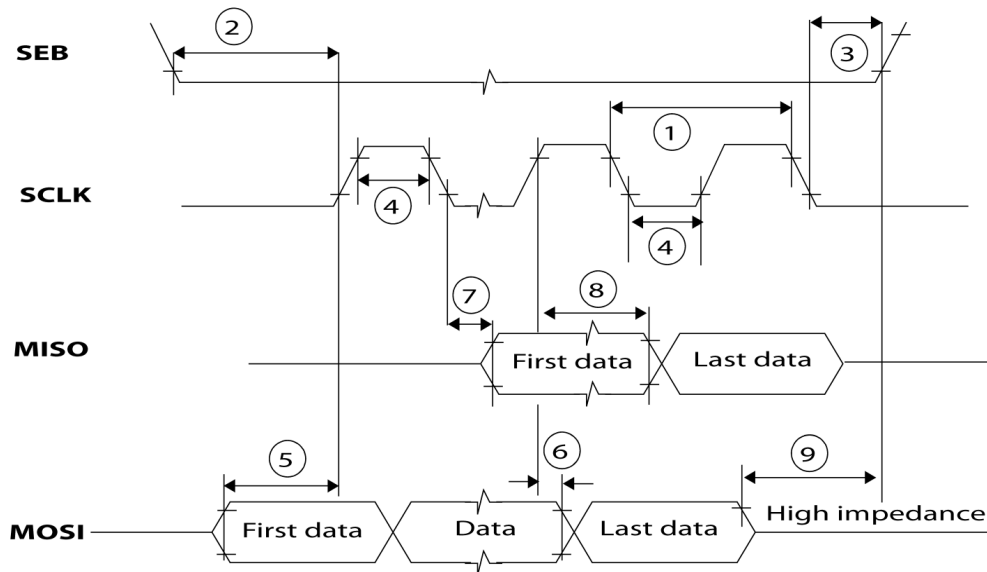

Figure 7. Typical SPI timing chart
SPI timings are described in Table 7 and illustrated in Figure 7. The SPI timing diagram, with the temperature and supply voltage conditions described in this document, and a maximum load capacitance, CL = 20 pF.
5. The numbers under the Notes heading refer to the corresponding numbers in Figure 7.